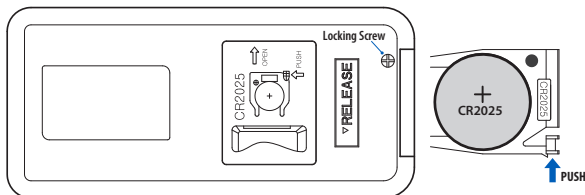

Figure 4
- To replace the battery, remove the locking screw on the back of the remote control using a small Phillips screwdriver, then push the tab on the left of the battery tray towards the right and pull out the battery tray from the remote control (see **Figure 4**). Place a new "CR2025" battery on the tray with the positive (+) side facing up. Insert the tray back into the remote control and secure with the locking screw.